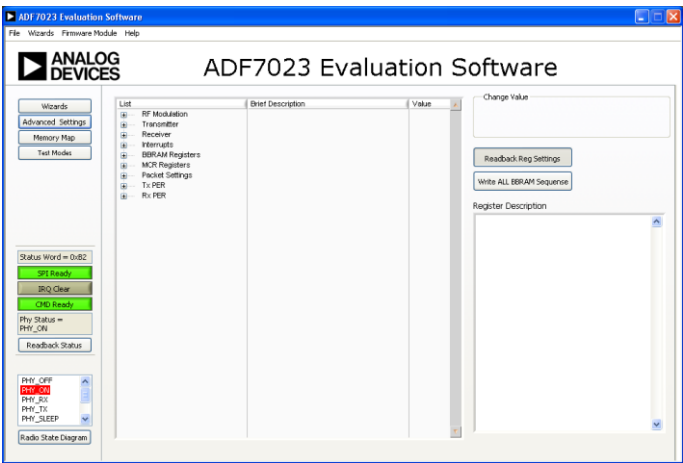

Figure 10
7. After pressing “Finish” the main evaluation screen will appear (Figure 10)